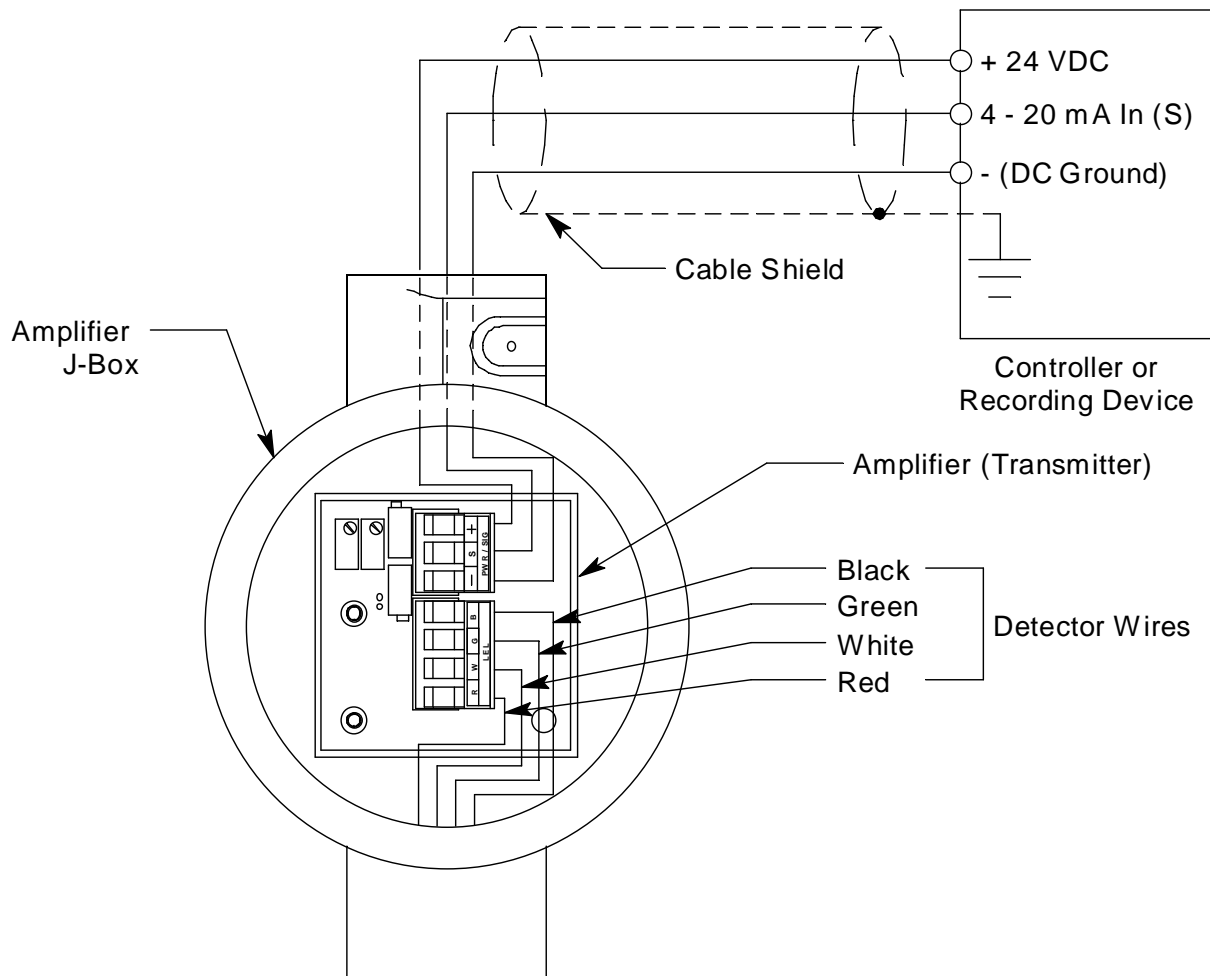

Figure 5: Wiring the Amplifier to a Controller
5. Pull out the controller terminal strip, and connect the three wires to the terminal strip as follows (see Figure 5).
9. Connect the wires to the applicable detector/transmitter terminal strip at the controller as shown in Figure 5.
9. Install the detector and controller terminals strips into their sockets on the new amplifier as shown in Figure 5 on page 14 of this manual. If controller leads or detector leads were removed during this procedure, refer to Table 3 and Table 4 below.